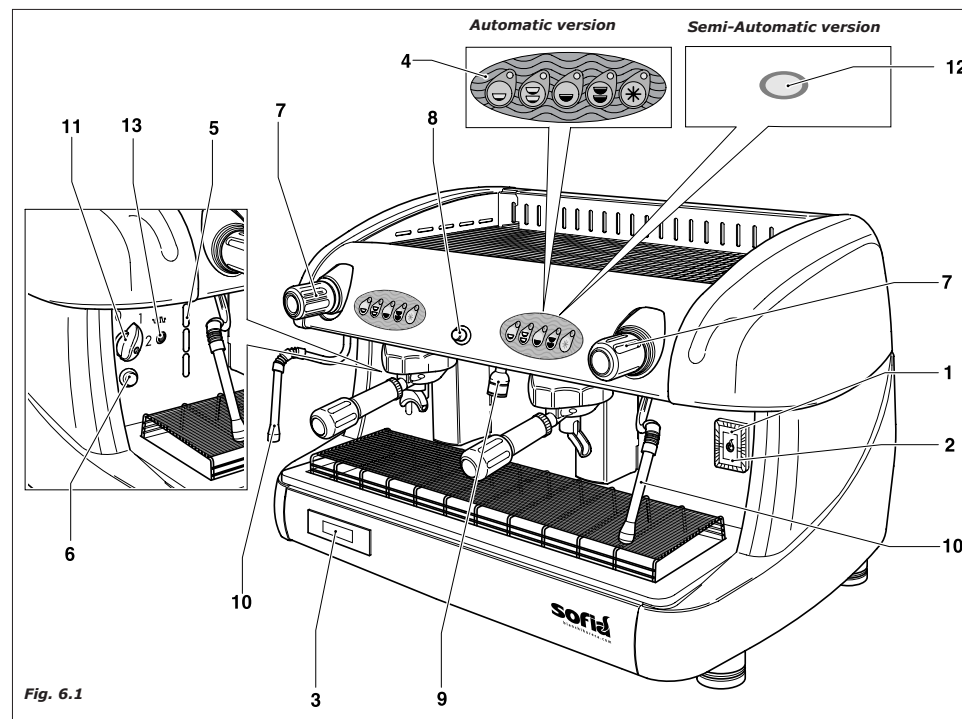

Fig. 6.1
- 5 rotate the machine start-up turn-knob (Fig. 6.1, item 11) to position 1, whereupon the machine will automatically fill in water, up to the probe level